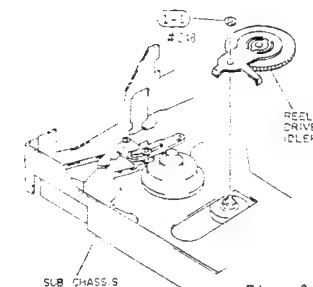

Fig. 2-45
- 1) Remove one (1) washer holding the reel drive idler. (See Fig. 2-45)